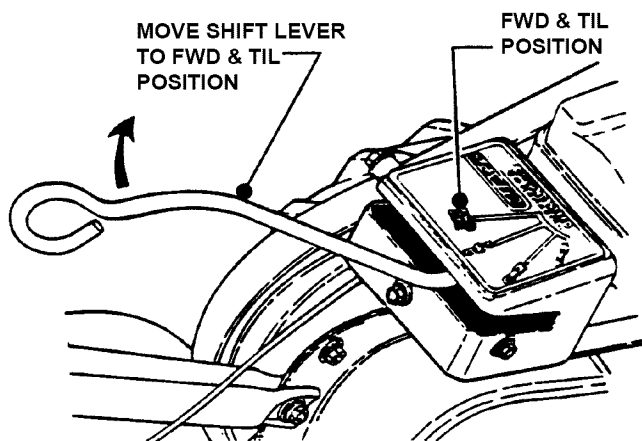

FIGURE 8
4. To start TILLING action, move the WHEEL and TINE SHIFT LEVER to the FWD & TIL position (See Figure 8). Step behind the Tiller and raise the WHEEL and TINE CONTROL BAIL up against the handlebar to start forward movement of the Tiller and rearward rotation of the tines.